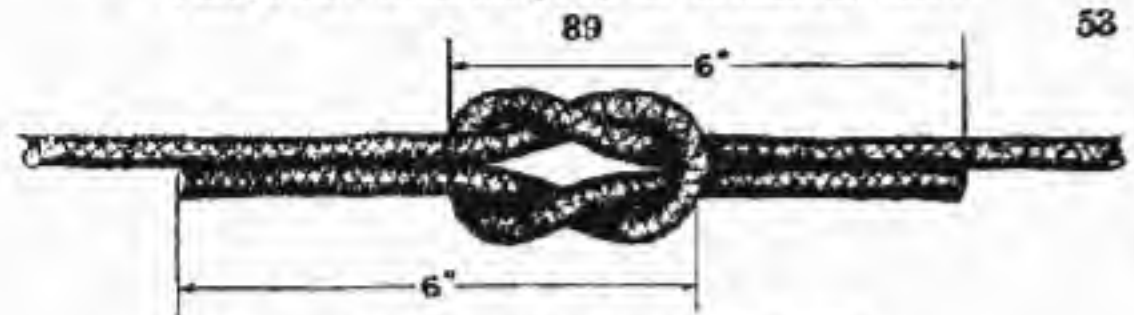

FIGURE 97.—Splicing detonating cord.
b. To splice detonating cord.—Use a square knot to tie two ends of detonating cord together. The loop in the end of each piece of detonating cord must be at least 6 inches long (fig. 97).